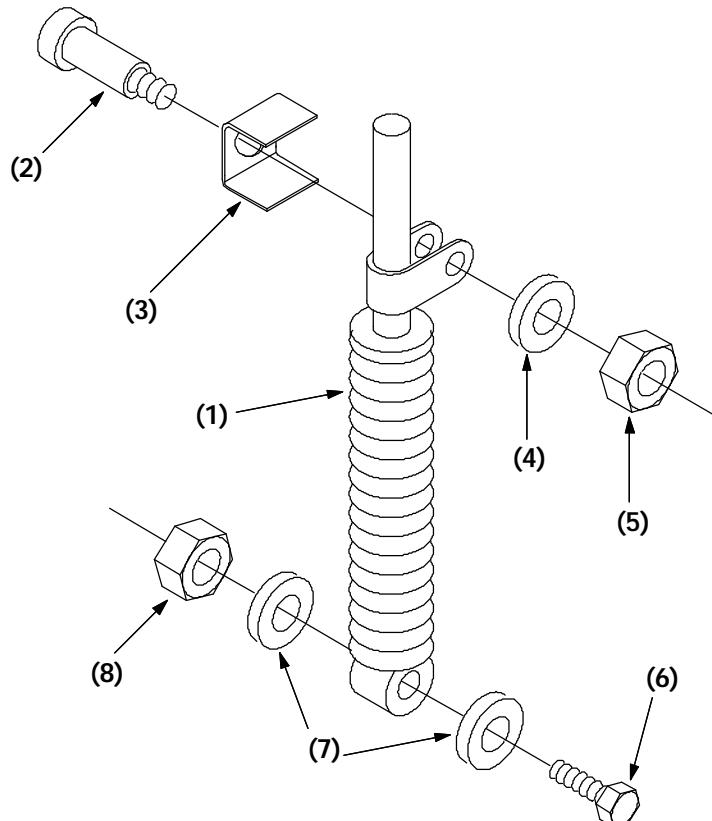

FIG. 1 - Installation of Retainer Bracket onto Shock Absorber
(Refer to FIG. 1 and 2)
4. Remove hardware and shock absorber. (Refer to FIG. 1 and 2).
5. Install new shock absorber (1) with hardware provided (2, 3, 4, 6, and 7). Tighten nuts (5 and 8). (Refer to FIG. 1 and 2).
(Refer to FIG. 1 and 3)
3. Locate the shock absorber (on front side of propel pump). (Refer to FIG. 1 and 3).
4. Install new shock absorber (1) with hardware provided (2, 3, 4, 6, and 7). Tighten nuts (5 and 8). (Refer to FIG. 1 and 3).
(Refer to FIG. 1 and 4)**
4. Remove hardware and shock absorber. (Refer to FIG. 1 and 4).
5. Install new shock absorber (1) with hardware provided (2, 3, 4, 6, and 7). Tighten nuts (5 and 8). (Refer to FIG. 1 and 4).